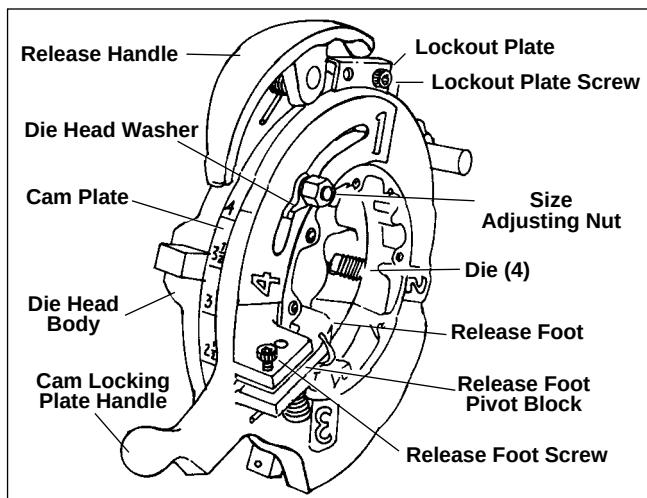

Figure 13 – Know Your 714/914 Die Head
10. At end of cut, receding mechanism will automatically open dies. (See Figure 13.)
(*Figure 13*)